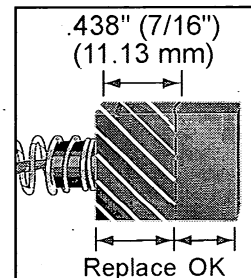

Figure 2
- B. Inspect the brushes for signs of excessive wear or cracks. The motor brushes must be replaced if one or both is worn to .438" (7/16"/11.13mm) or less in length, is broken or chipped, has a broken spring, or binds in the motor. See Figure 2.